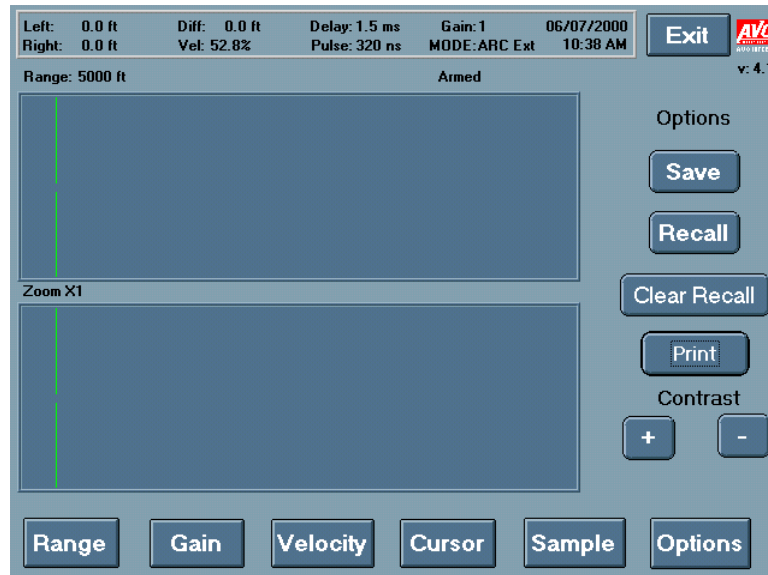
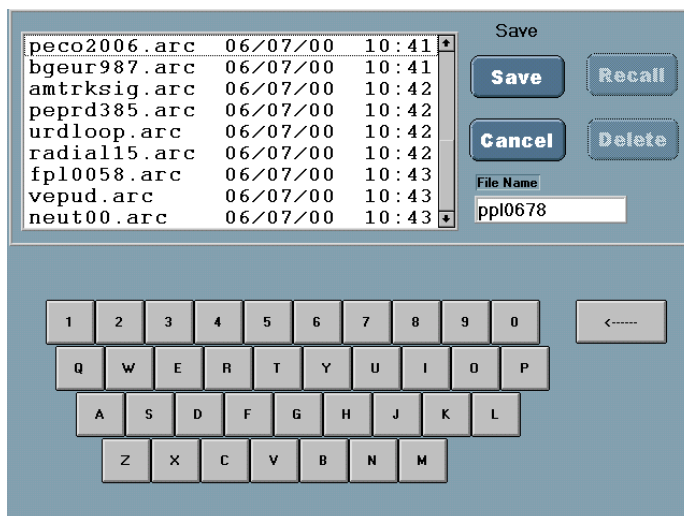
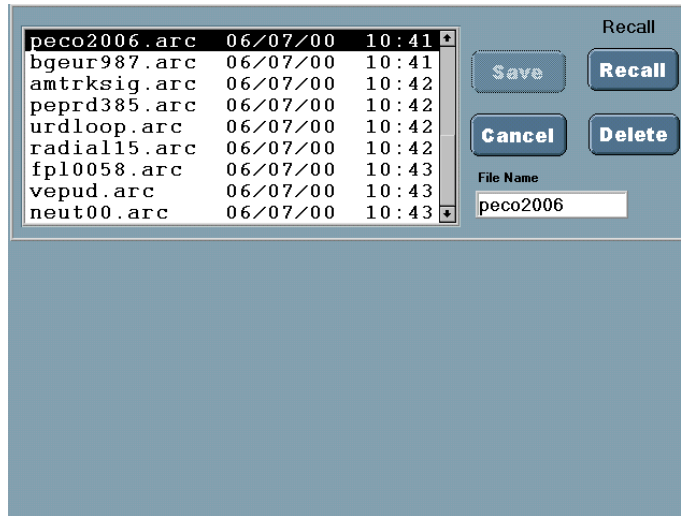

Figure 6-7 Options screen
Figure 6-8 Save screen
Figure 6-9 Recall screen
Access the Options screen (Figure 6-7) by pressing **Options** on any screen offering that choice.
- To select Save or Recall screens. Press **Save** to go to the Save screen (Figure 6-8). Press **Recall** to go to the Recall screen (Figure 6-9).
Use the Save screen (Figure 6-8) to save traces and data to memory.
Press **Save** on the Options screen (Figure 6-7) to display the screen. You can save high- and low-voltage traces, velocity, time delay, pulse width, gain, mode, date, and time. The window displays previously saved files, including filename, date, and time.
Use the Recall screen (Figure 6-9) to recall saved traces and display them on the screen. High- and low-voltage traces, velocity, delay time, pulse width, gain, mode, date, and time will be recalled.
Display the Recall screen by pressing **Recall** on the Options screen (Figure 6-7). The screen becomes active, allowing left and right cursor movement. The recalled trace will be dashed/yellow. All settings of the real time trace will change to match those of the recalled trace.
Display the Delete screen by pressing **Recall** on the Options screen (Figure 6-7) and then **Delete** on the Recall screen (Figure 6-9).